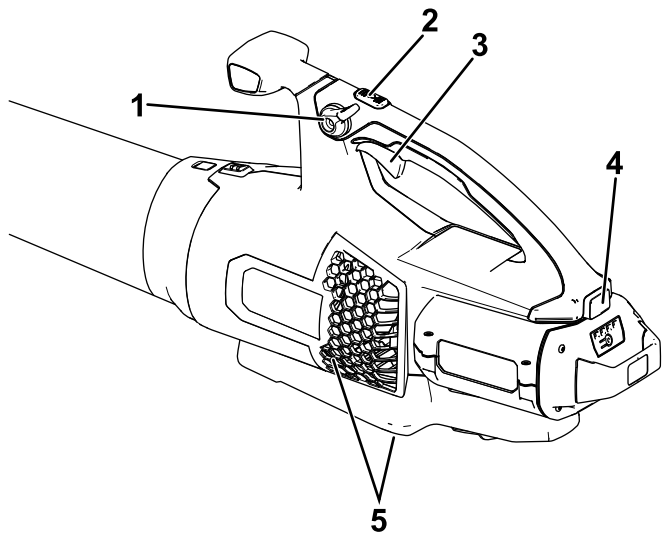

Figure 7
4. To start the blower, squeeze the variable-speed trigger (Figure 7).
**Note:** Engage the speed lock to keep the machine on without pressing the variable-speed trigger (Figure 7).
To achieve maximum performance (air speed), fully depress the variable-speed trigger, then press and hold the turbo boost button for the desired amount of time (Figure 7).
To adjust the air speed as you blow, use the variable-speed trigger (Figure 7).
To maintain the current air speed, engage the speed lock (Figure 7).
To shut off the blower, disengage the speed lock (if in use) and release the variable-speed trigger (Figure 7).